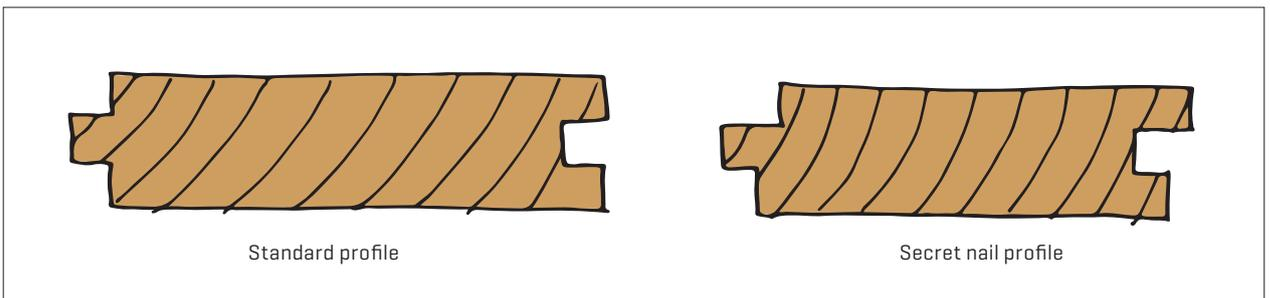

Figure 3. Standard and secret nail profile.
**3.3.1** Timber strip flooring generally consists of tongue and groove boards 13–21 mm thick and 65–150 mm wide. [Note that NZS 3604:2011 provides requirements for boards up to 100 mm in width]. Boards installed over timber subfloor framing are typically a minimum of 19 mm thick and may be either a standard profile [face nailed] or secret nail profile [face nailed or secretly fixed] [Figure 3].